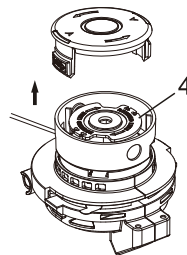

Fig. 14
3. Pull the empty spool (4) upward to remove the spool and any remaining trimmer line from the spool housing (Fig. 14).